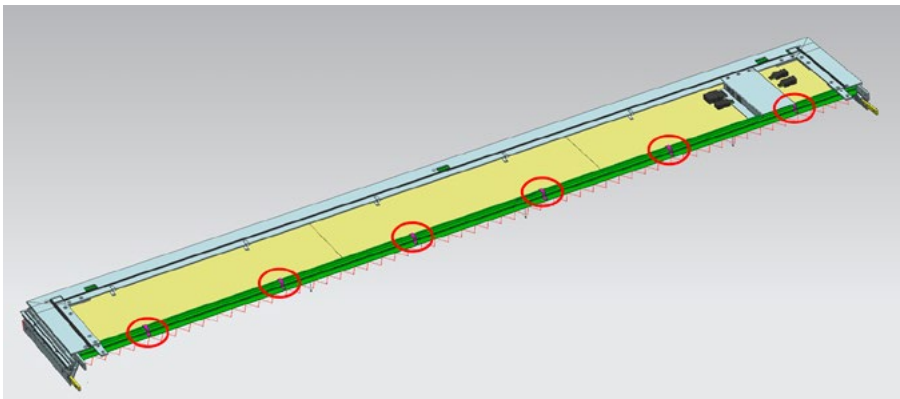

Figure 5: Remove the single crossbar clips from the Left and Right modules.
- Fold back the panel backcover. Remove the purple single crossbar clips from the Left or Right module, see Figure 5 below (here the back cover is not shown for the purpose of clarity).